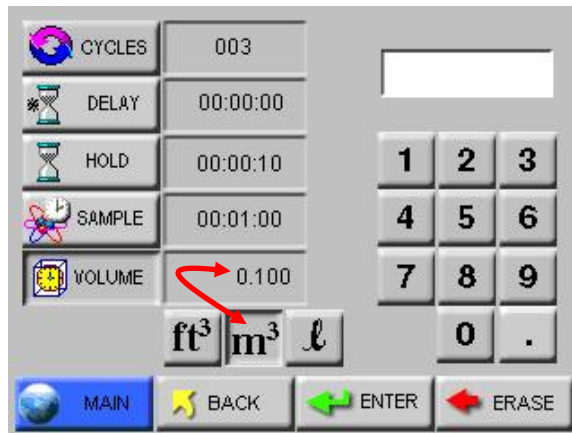

Figure 6-29 Changing Sample Volume Unit of Measure
- **SAMPLE VOLUME:** Instead of selecting a specific Sample Time, the instrument can be set to measure a specific Sample Volume in cubic feet (ft³), cubic meters (m³) or liters (l). When this is set, the corresponding Sample Volume will automatically be set. See Figure 6-29.